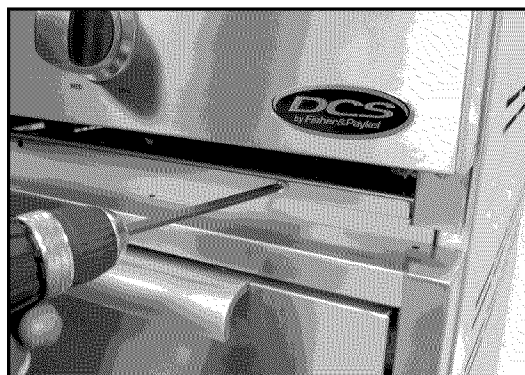

Fig. 16
5. Install remaining (3) screws (10-24 x 1/2") into the front of head to the cart (Fig. 16).